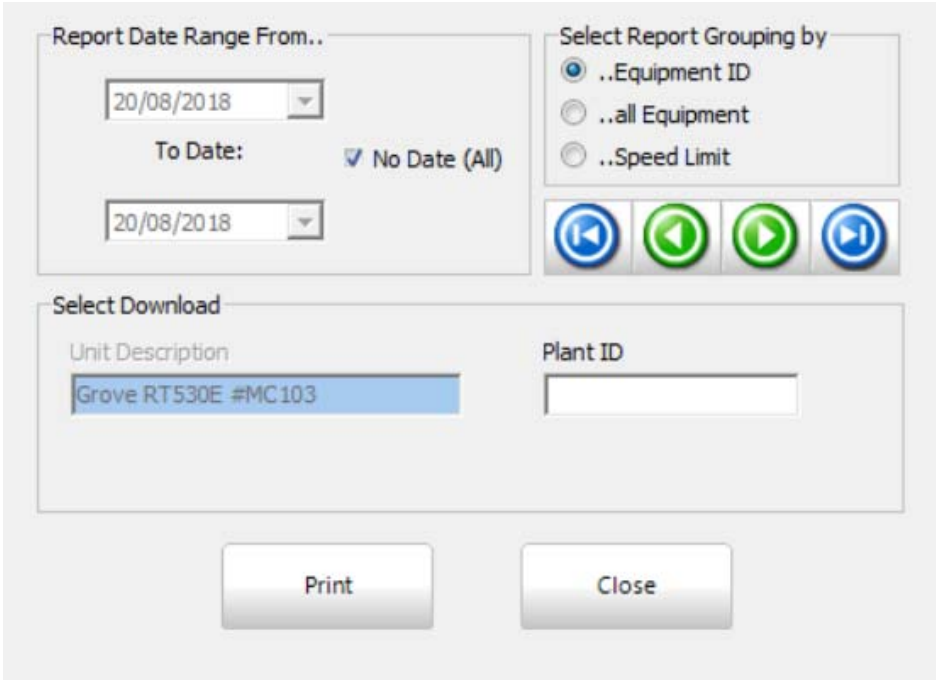

Figure 42
- Select the  button (**Figure 42**) and the select the options as laid out below: